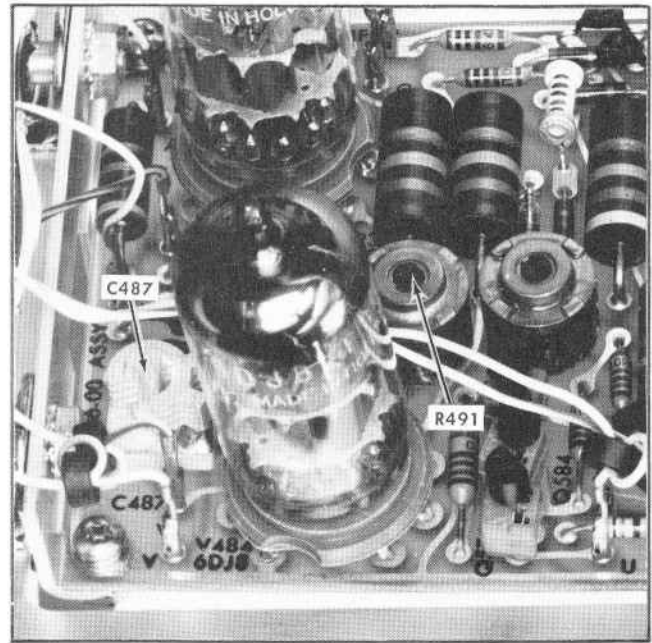

Fig. 6-30. Location of trigger output adjustments (step 31).
- d. Set R491 (see Fig. 6-30) for zero volts at Pin X.
- h. Set C487 (see Fig. 6-30) for the best square-wave response on the test oscilloscope display.